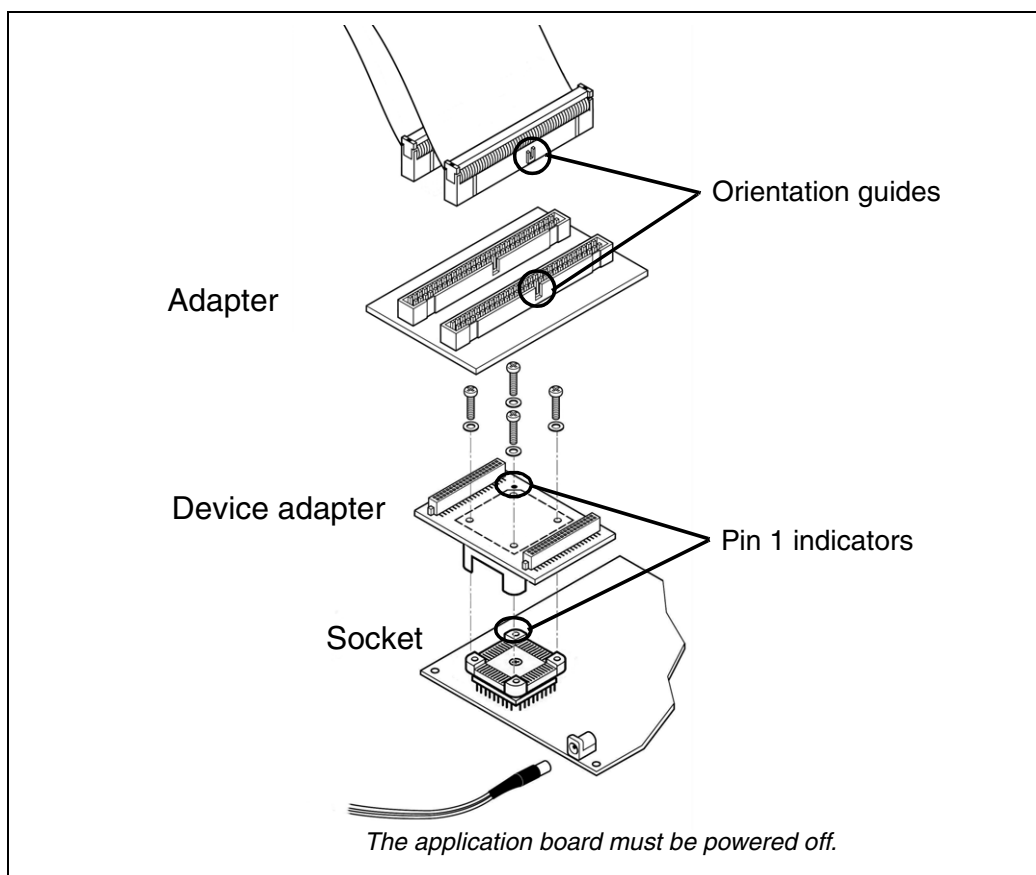

Figure 6: Connection for TQFP64 (14 x 14) package
- 2 Align the pin 1 of the device adapter (Ref.: DB543) with pin 1 of the socket, then secure the device adapter to the socket with the provided screws as shown in Figure 6.